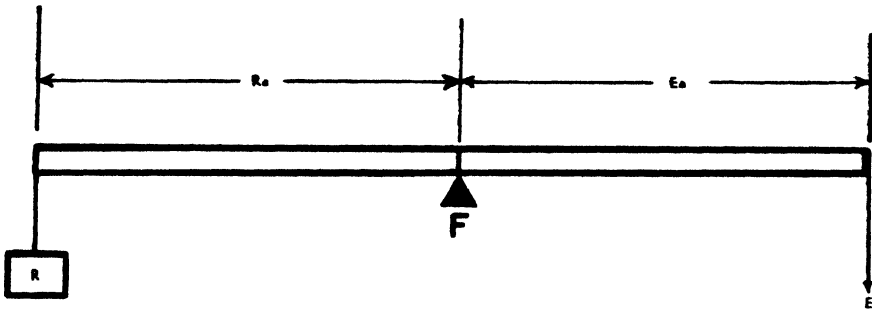

FIG. 59. FIRST CLASS LEVER.
For simplicity, levers are classified in three groups. First and second class levers are used to gain mechanical advantage, that is, to multiply the effort, while the third class of levers is used to increase speed. The first class lever, Fig. 59, has the fulcrum between the resistance (R) and